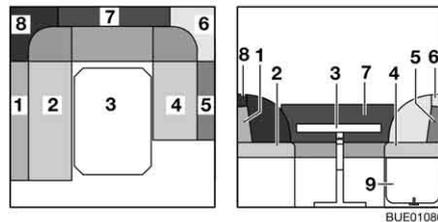

Fig. 107 Prior to conversion
- Convert the table (Fig. 107,3) to a bed foundation (see section 6.12).
- Unlatch and fold up the bedding box extension (Fig. 107,9).